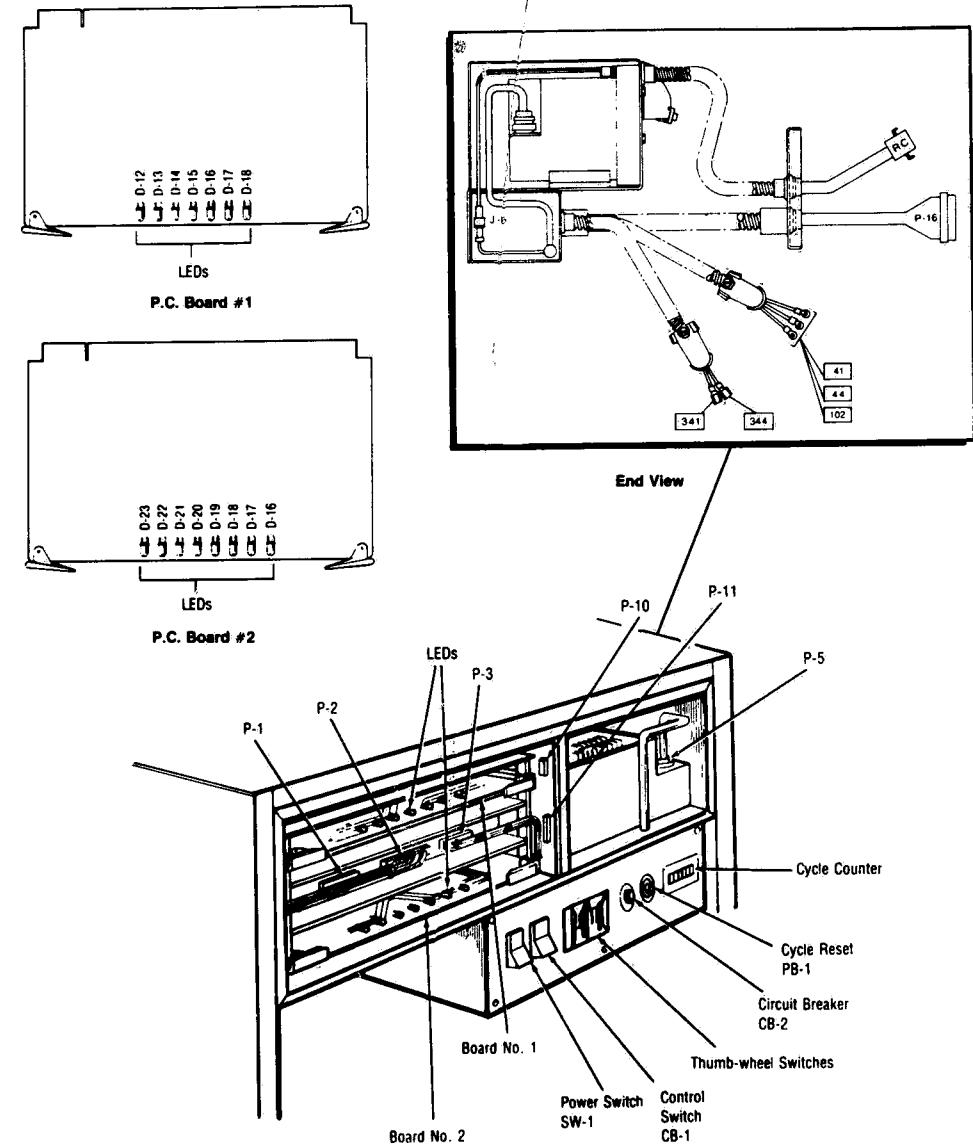

Figure 6-2. CONTROL DETAILS
2) Circuit breaker CB-2 (RESET circuit breaker on secondary panel) tripped — push to reset. NOTE: If breaker will not reset, see item 1.B. under TROUBLE in this table.	Fig. 6-2
3) Control switch CB-1 (CONTROL switch on secondary panel) tripped — reset to ON. NOTE: If switch will not remain on, see item 1.C. in this table.	Fig. 6-2
4) Power switch SW-1 (POWER switch on secondary panel) off or defective — turn on; with facility power removed, check switch with ohmmeter and replace if necessary.	Fig. 6-2 Fig. 8-16, 7
2) With CB-1 off, disconnect J1 from controller. Turn CB-1 on and try to reset CB-2. If CB-2 resets, see step 1.B.5. If CB-2 does not reset, see next step, 1.B.3. Replace P1. Be sure to reconnect J1 to controller.	Fig. 6-2
3) With CB-2 off, remove PC board 1 from controller. Try to reset CB-2. If CB-2 resets, replace PC board 1. If CB-2 does not reset, see next step, 1.B.4.	Fig. 6-2 Fig. 6-15, 8
4) With CB-2 off, disconnect P5 from power supply. Try to reset CB-2. If CB-2 resets, replace power supply. If CB-2 does not reset, isolate and repair short between P5 and CB-1.	Fig. 6-2
5) With CB-2 off, disconnect P1 from controller. Try to reset CB-2. If CB-2 resets, isolate and repair short between P1 and a solenoid valve, the counter, or the buzzer. If CB-2 does not reset, see next step 1.B.6.	Fig. 6-2
6) With CB-2 off, remove PC board 1 from the controller. Try to reset CB-2. If CB-2 resets, replace PC board 1. If CB-2 does not reset, reinstall PC board 1, and see next step, 1.B.7.	Fig. 6-2 Fig. 8-15, 8
7) With CB-2 off, remove PC board 2 from controller. Try to reset CB-2. If CB-2 resets, replace board 2. If CB-2 does not reset, replace controller power supply.	Fig. 6-2 Fig. 8-15, 9 Fig. 8-13, 3
c) Check LED D-16 on PC board 1 — should be on during exhaust and dry. Replace board if light not on.	Fig. 6-2 Fig. 8-15, 8